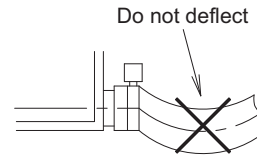

Fig. 27
- Do not deflect the drain hose (1) inside of the indoor unit. (Refer to Fig. 27) (It may cause abnormal noise such as bubbling noise.) (If the drain hose (1) is deflected, it may damage the suction grille.)